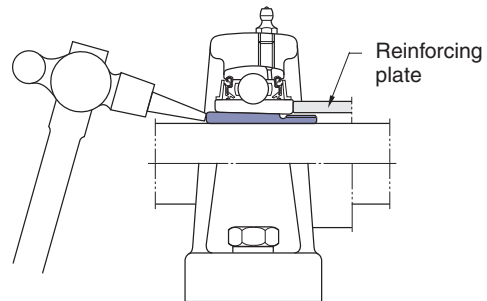

Fig. 14.6 Fitting adapter sleeve to bearing with tapered bore
- (3) Slide the bearing unit over the shaft and onto the adapter sleeve, then place a cylindrical reinforcing ring against the inner ring of the front side of the bearing. Seat the adapter sleeve by lightly tapping all around the backside of the sleeve (Fig. 14.6).